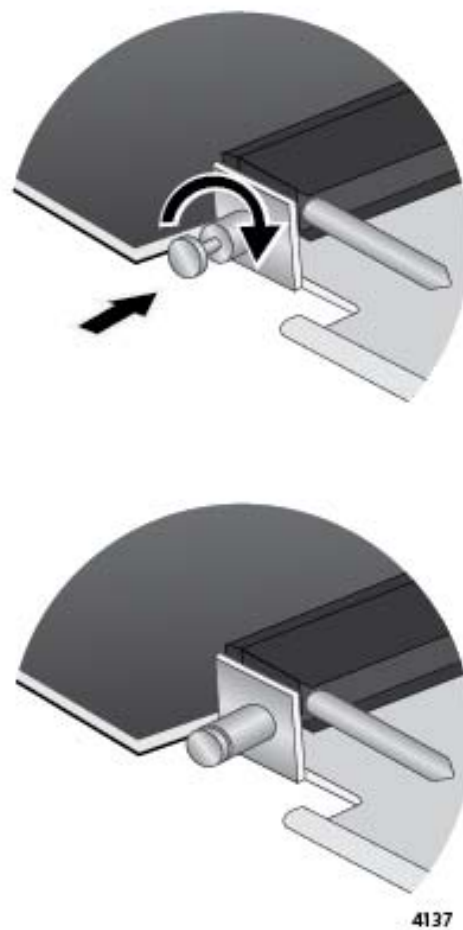

Figure 170. Releasing the Retaining Pin
11. Turn the retaining pin on the side of the card a quarter turn to release it. Refer to Figure 170 on page 262.